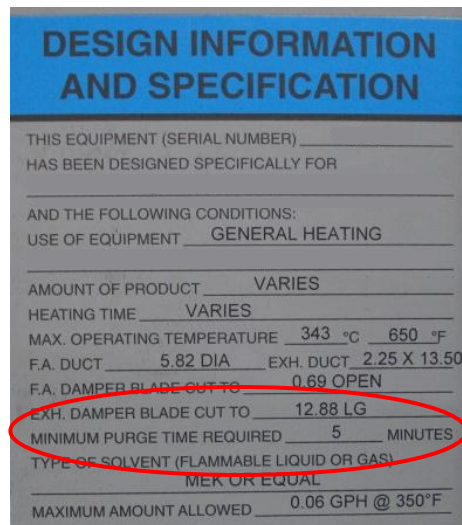

Figure 14. Minimum purge time is listed on the RFD oven design specification label.
2. Verify purge timer (Figure 10) is set to the correct value as it appears on the Design Specification (Figure 14) or Table 2.
1. Check the minimum purge time setting on the RFD Oven name plate (Figure 14).